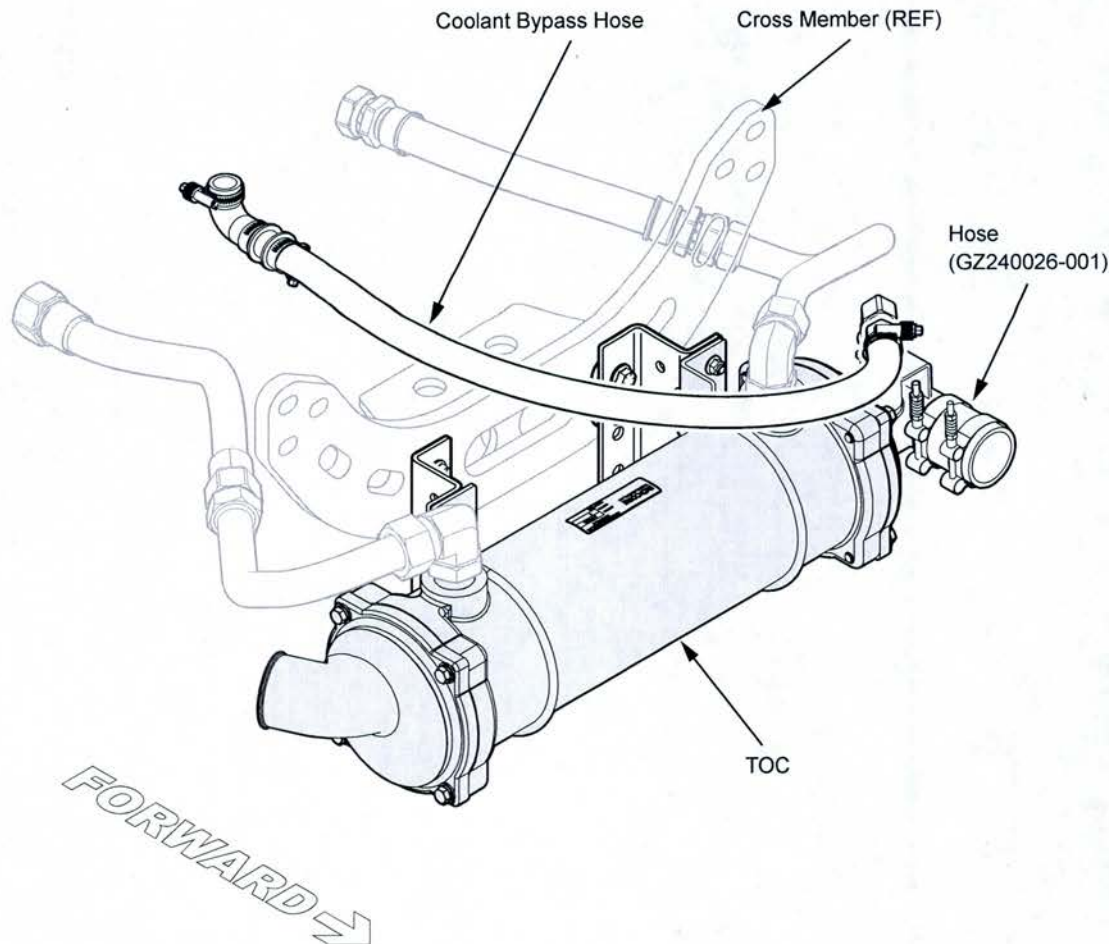

Figure 11
19. On the LH side of the TOC, install the hose (GZ240026-001) and 2 hose clamps (see Figure 11).